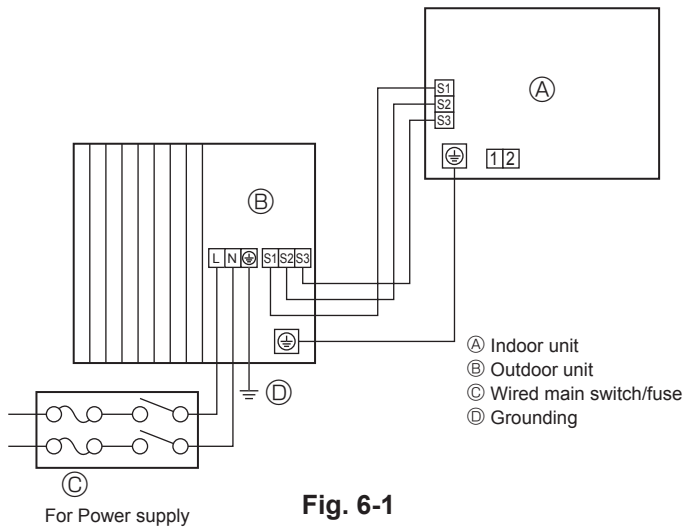
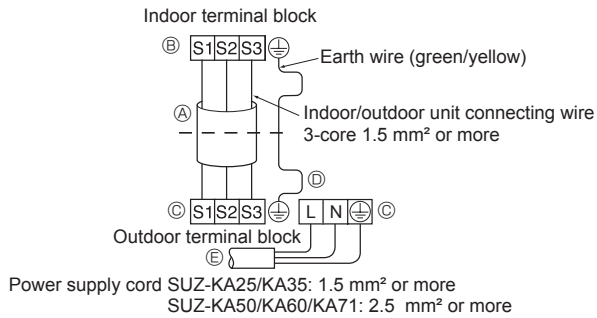
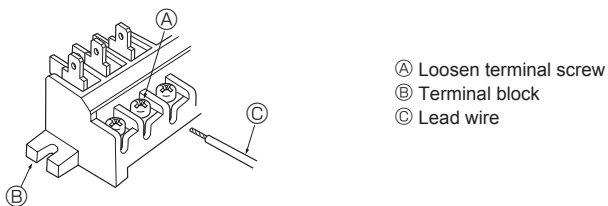

Fig. 6-1
Fig. 6-2
Fig. 6-4
6.1. Outdoor unit (Fig. 6-1, Fig. 6-2, Fig. 6-3, Fig. 6-4)
- ① Remove the service panel.
- ② Wire the cables referring to the Fig. 6-1, Fig. 6-2, Fig. 6-3 and the Fig. 6-4.
- Perform wiring as shown in the diagram to the lower left. (Procure the cable locally) (Fig. 6-2)
- Use care not to make miswiring. (Fig. 6-4)